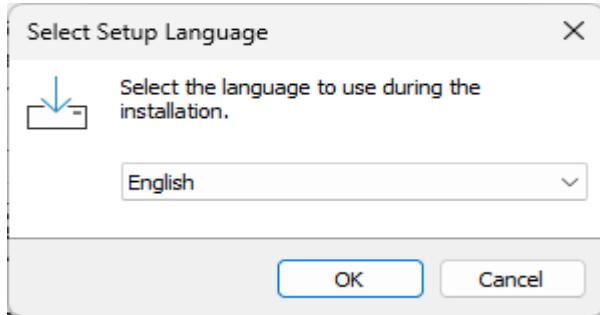

Figure 105: Climsoft version upgrade
- (iii) Run the upgrade setup file as a Windows administrator to start the upgrade wizard as shown in Figure 105;